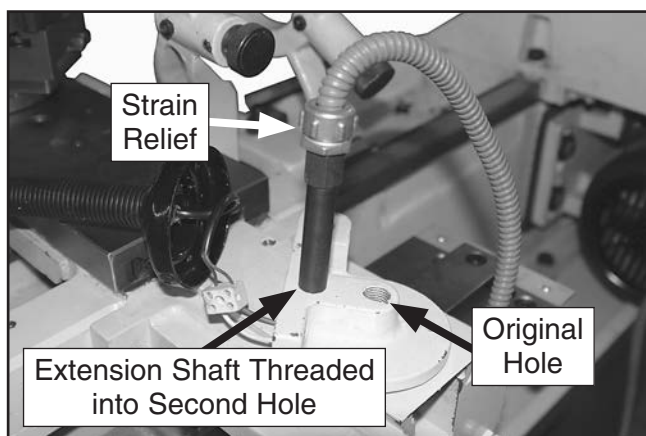

Figure 26. Extension shaft threaded into second hole of lamp bracket.
45. With the wires inserted through the bracket hole and accessible from the top of the bracket, thread the extension shaft into the second bracket hole, then reconnect the strain relief (see **Figure 26**).